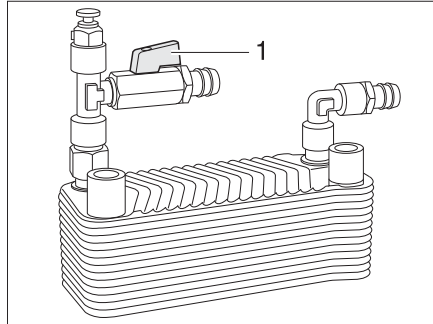

Fig. 248 Alde heat exchanger
- Turning on:* ■ Set stopcock handle (Fig. 248,1) parallel to the pipe.
- Shutting off:* ■ Set drain cock handle (Fig. 248,1) at a right angle to the pipe.